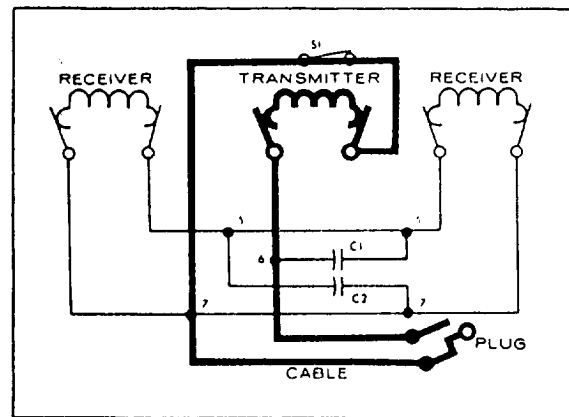
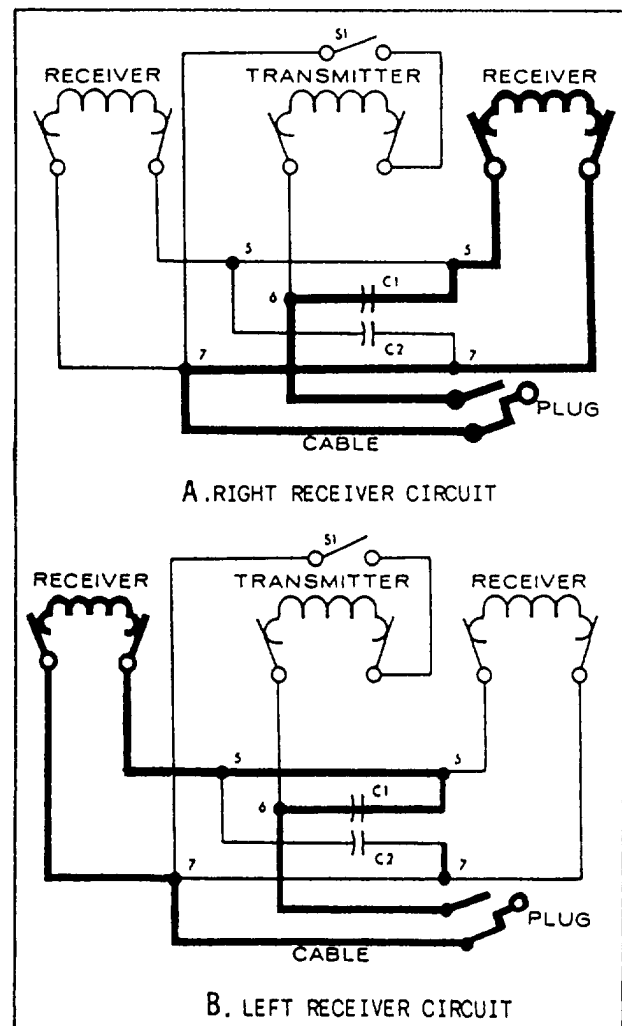

Figure 5-13.—Sound-powered telephone head set-chestset transmitter circuit.
Figure 5-14.—Sound-powered telephone headset-chestset receiver circuits.
**OPEN AND SHORT CIRCUITS.**— When testing the units for open and short circuits, you should use a low-voltage ohmmeter to avoid damage to the sound-powered transmitter and receiving units. Continuity tests may be made from the chestplate junction box on sound-powered headset-chestsets. Figure 5-13 is an illustration of the transmitter circuit of a sound-powered telephone headset-chestset. Figure 5-14 is an illustration of the receiver circuits. When testing the plug cable or tinsel cords of a sound-powered headset-chestset, you should disconnect them from the junction box. The normal dc resistances of the sound-powered transmitter and receiver units are 10 ohms and 62 ohms respectively. If the plug cable and tinsel cords test out satisfactorily, then you should check the capacitors.